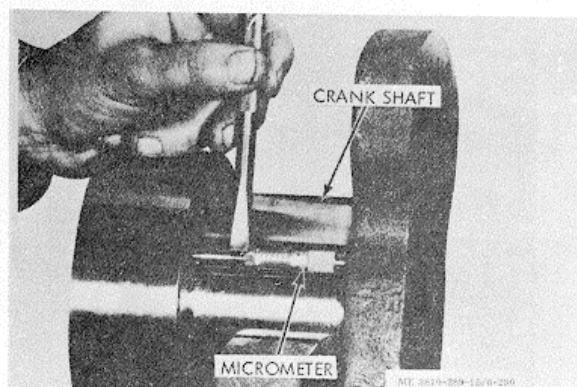

Figure 3-222. Checking thrust flange for wear.
(1) Inspect crankshaft visually for scratches, nicks, cracks and obvious wear pattern.
(2) Measure crankshaft journals with micrometers. See figure 3-222 or 3-223 and table 2-2.
(1) Carefully examine crankshaft thrust flange at No. 7 main bearing. Refer to figure 3-222. If surface is scored or scratched, flange should be reground for oversize thrust rings.
(2) Reground crankshafts or those used with oversized thrust rings should be marked so the